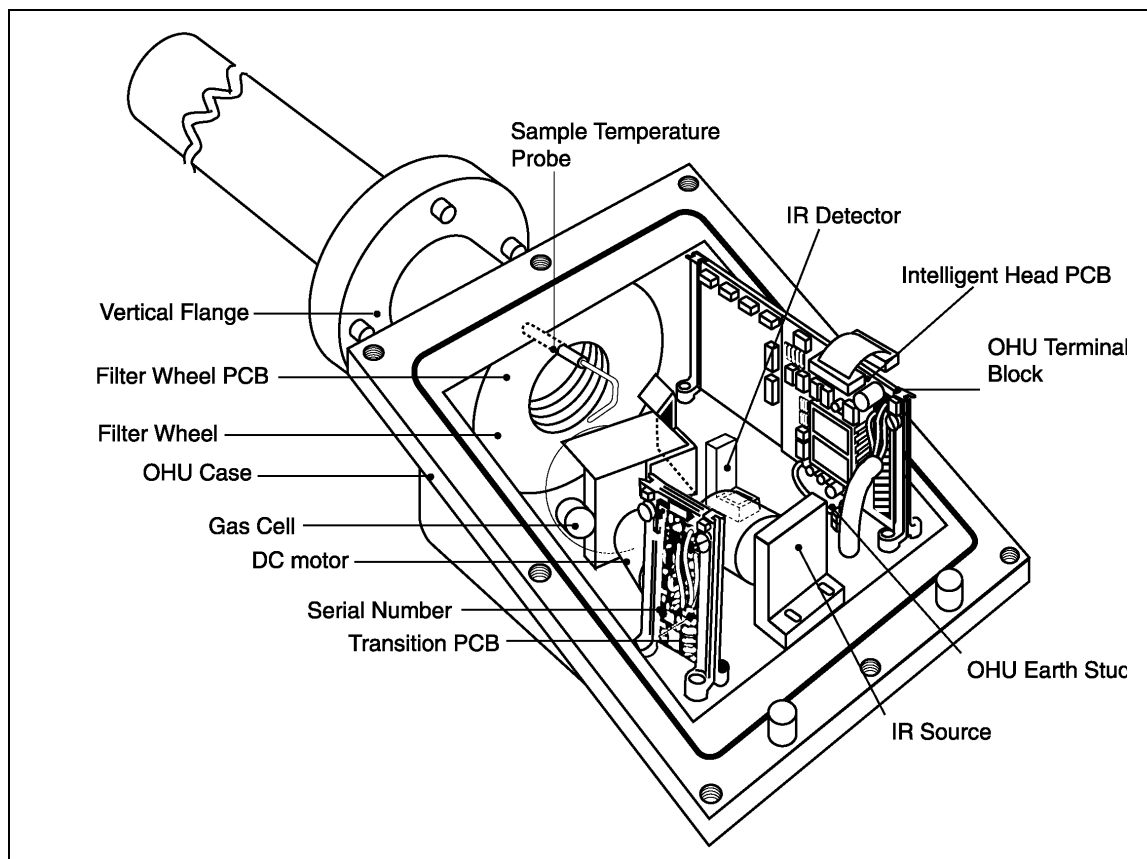

Figure 5-3 OHU unit with cover removed, showing position of IR source
- 4 Locate the Integral IR source by reference to Fig 5-3.
- 4 Locate the filter wheel motor by reference to Fig 5-3.